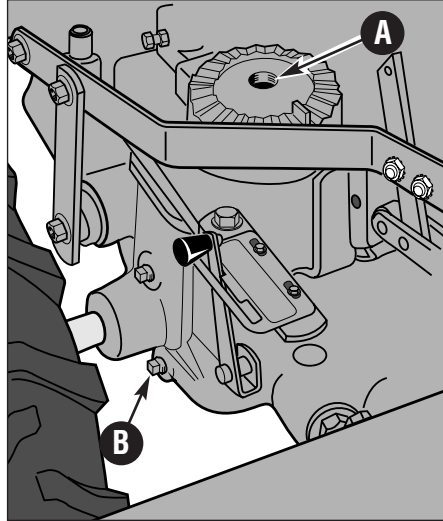

Figure 5-9: Gear oil fill hole (A) and gear oil drain location (B).
Then, unplug the Forward Interlock wire harness receptacle at the bottom of the handlebars. Set the handlebar base and bolt aside on a clean surface. The bolt hole in the top of the transmission is the gear oil fill hole (A, Figure 5-9).
1. Place a shallow pan under the transmission gear oil drain plug (B, Figure 5-9).
3. Using the 3/8" wrench, remove the drain plug (B, Figure 5-9). The gear oil will drain quite slowly since it is thick. After about two quarts have drained, tilt the tiller forward so any oil at the rear of the transmission will drain out.